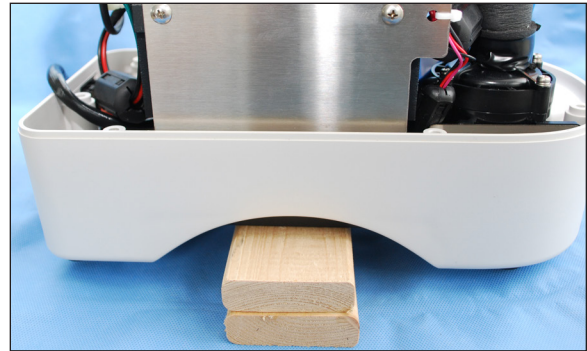

Figure 137 - Step 4 Raise up off table
4. Raise the bottom enclosure off of the table. Place a support under the fan guard so that the unit is suspended (Figure 137).